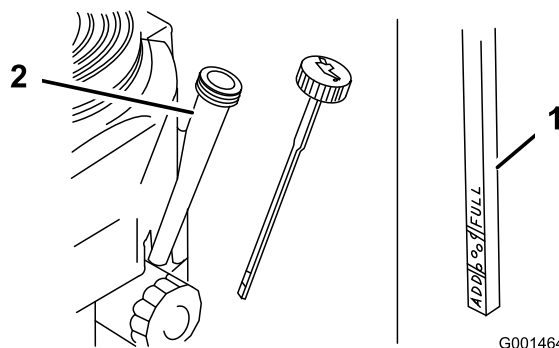

Figure 29
4. Clean around the oil dipstick (Figure 29) so that dirt cannot fall into the filler hole and damage the engine.
5. Unscrew the oil dipstick and wipe the end clean (Figure 29).
6. Slide the oil dipstick fully into the filler tube, but do not thread onto tube (Figure 29).
8. Slowly pour approximately 80% of the specified oil into the filler tube (Figure 29).